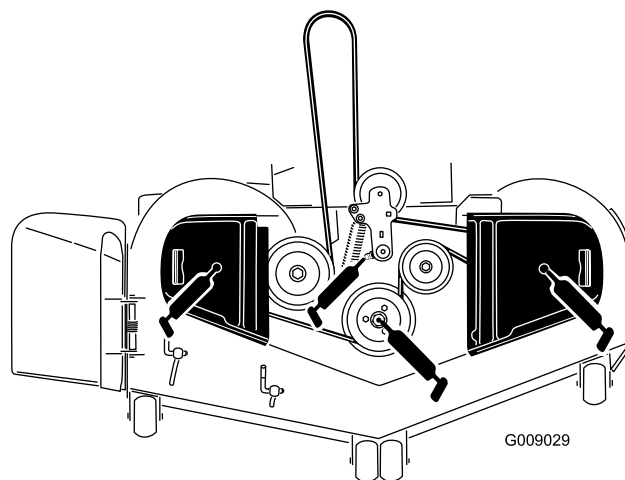

Figure 39
3. Grease the mower deck idler pulley pivot until grease come out the bottom (Figure 39).
4. Grease the three spindle bearings until grease comes out the lower seals (Figure 39).